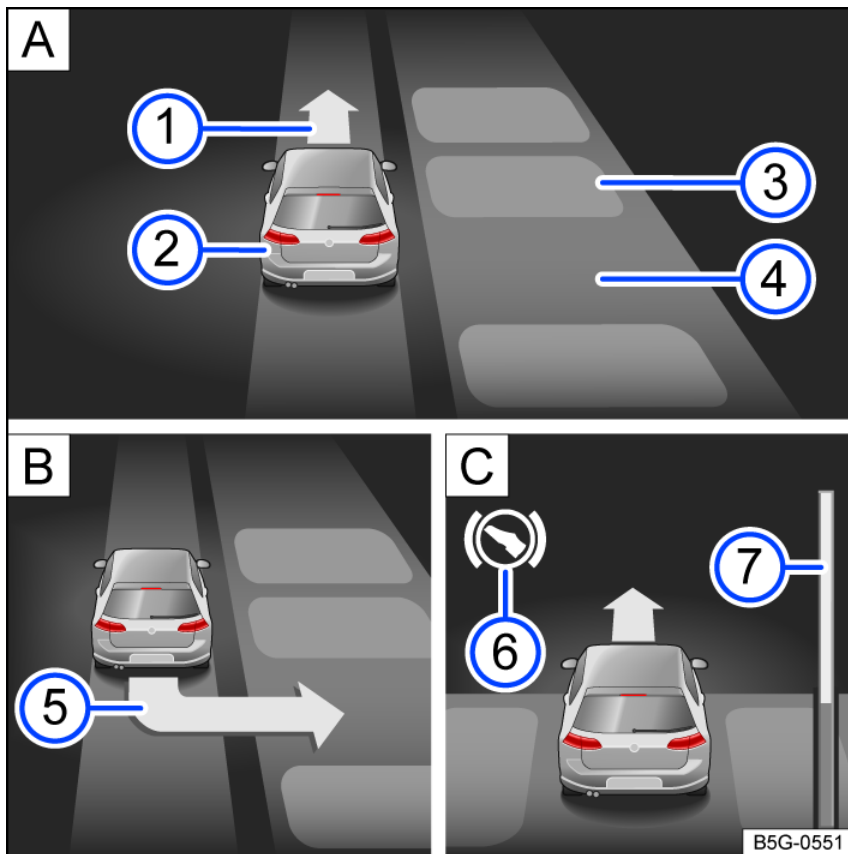

Fig. 149 In the instrument cluster display: parking perpendicular to the road.
2. Pay attention to the prompt for parking in the instrument cluster display fig. 149 **5**.